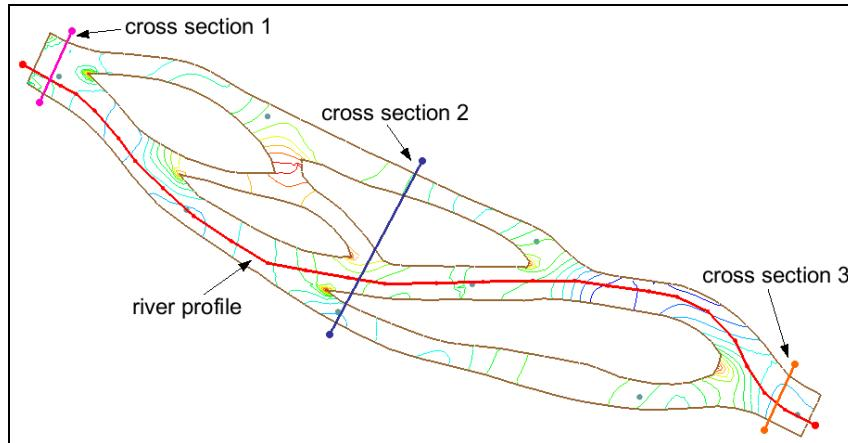

Figure 8 Profile and cross section arcs
5. Create an arc down the main channel, as shown in Figure 8. Remember to double-click the last point to end the arc.
11. Create each of the cross section arcs, as shown in Figure 8.